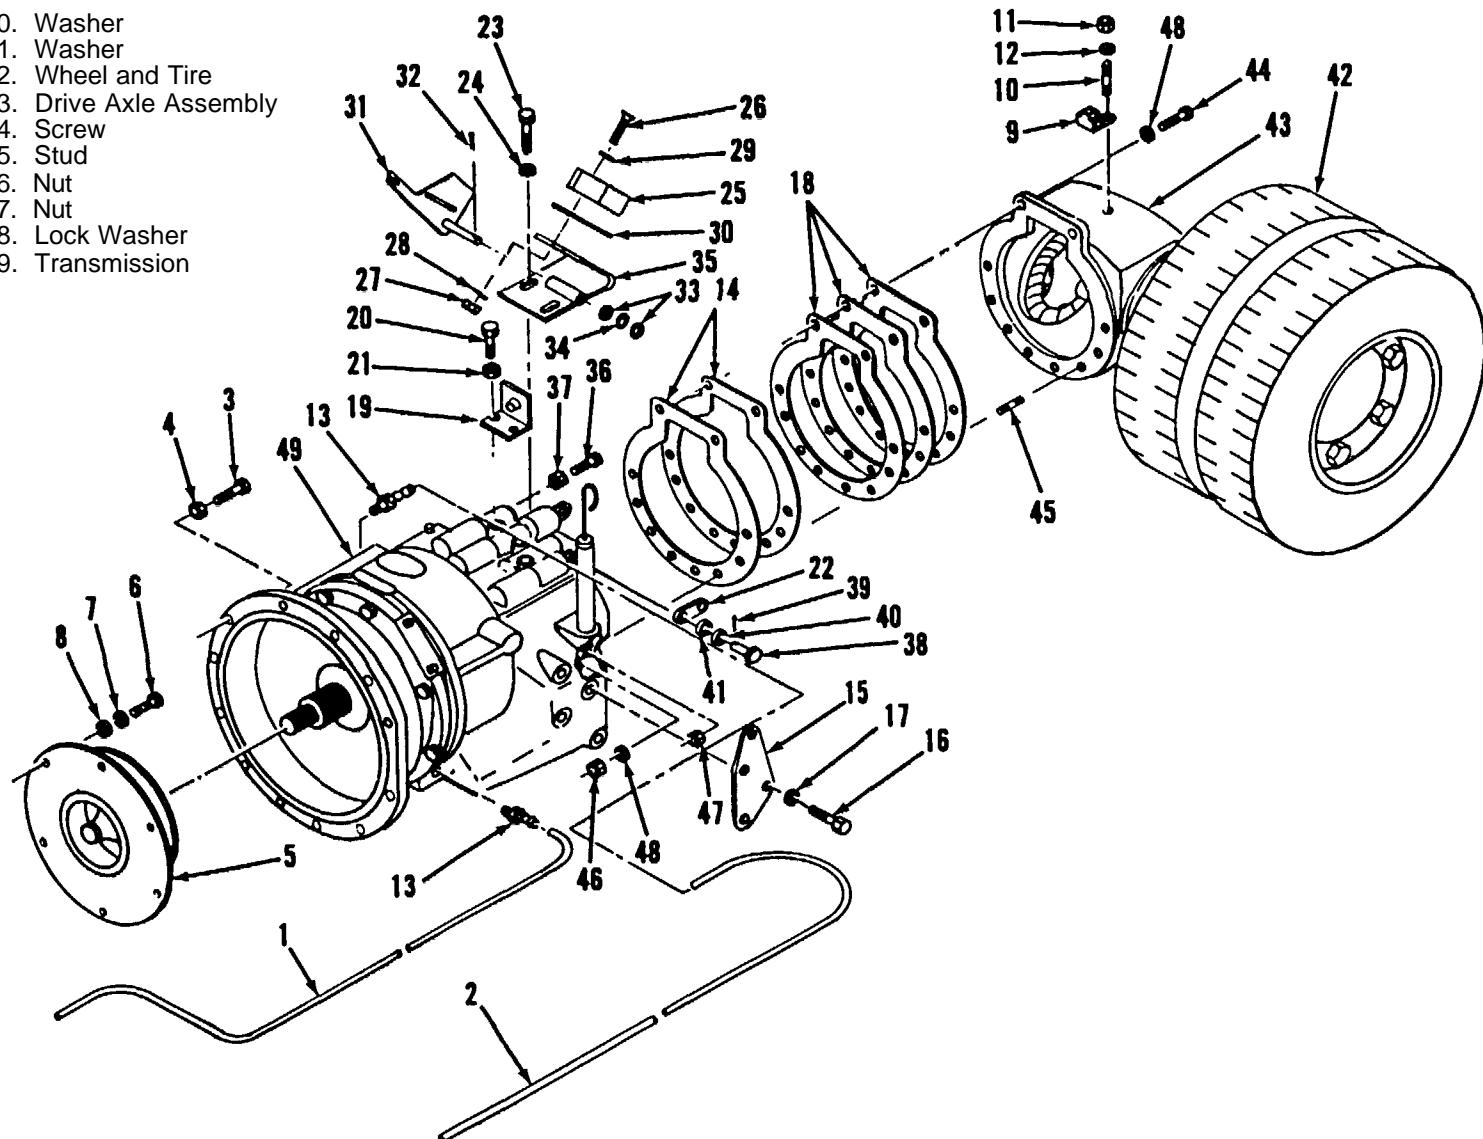

Figure 4-11. Drive Train Less Engine, Partially Exploded View
4. Remove two cap screws and lock washers (44 and 48, figure 4-11), seven nuts (46), washers (48) and jam nut and washer (47 and 48). Remove and discard gaskets (14 and 18) after noting total thickness for guidance in selecting new, gaskets when replacing drive axle.
4. Free hoses (1 and 2, figure 4-11) by loosening and sliding clamps up hoses. Leave clamps on hoses for reuse and pull hoses from adapters (13).
5. Remove flywheel housing top access plate. Rotate flywheel as required to remove the six screws (6), lock washers (7) and flat washers (8) attaching the torque converter (5) flexible drive disk to the flywheel.